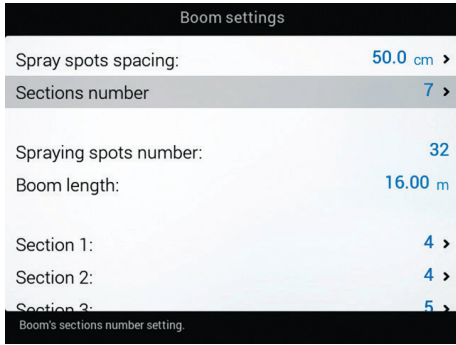

Fig. 35
- Repeat the setup for each section (Fig. 35).